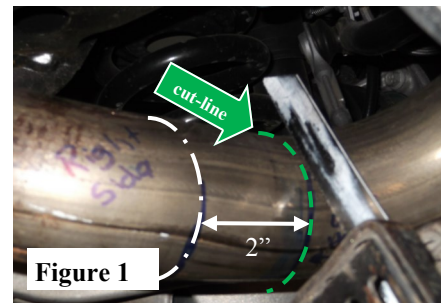

Figure 1
2. Starting on right-side under-axle pipe, measure and mark a perpendicular **cut-line** (indicated in green) 2" from pipe-bend (indicated in white). Use a metal cutting bladed saw, carefully cut this right-side pipe at the **cut-line**. (See Fig. 1)